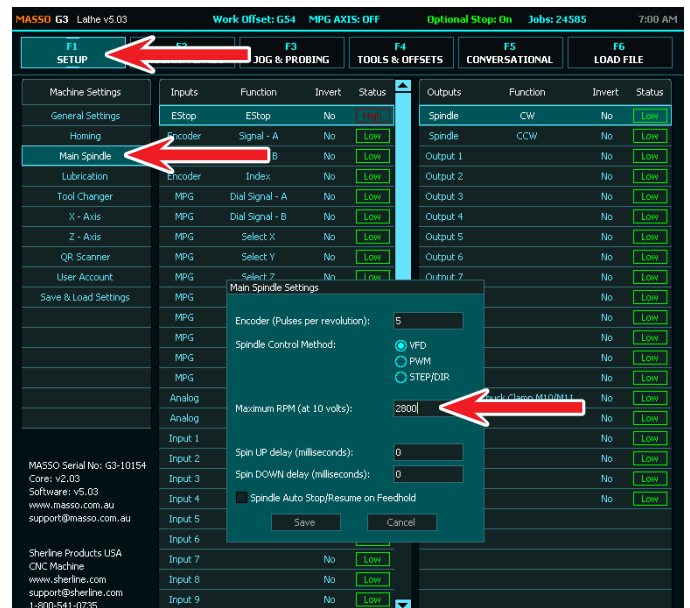

FIGURE 11
- D. When the box opens, the “Maximum RPM (at 10 volts)” will be set at 2800 (see Figure 11).